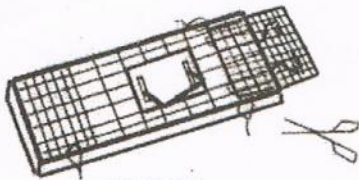

FIGURE 1
1. Remove the cable ties holding the trap closed. (Figure 1)